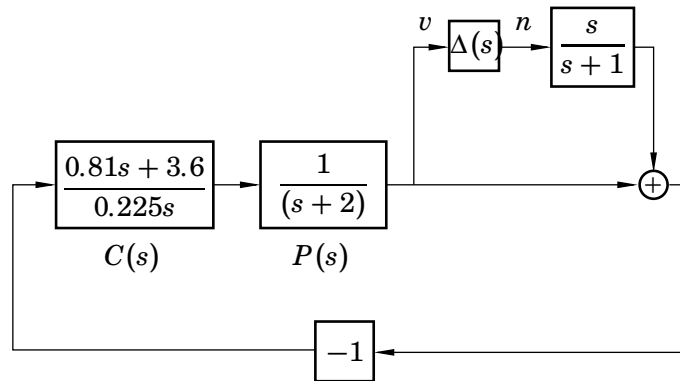

Figure 3.4 System for Problem 3.4.
3.4 (*) Consider the system in Figure 3.4.